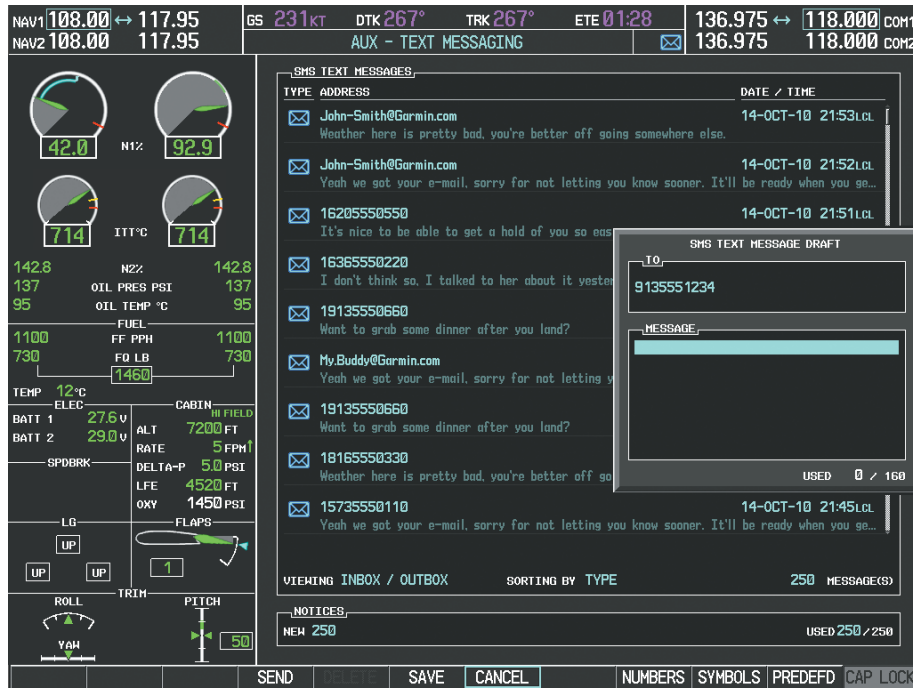

Figure 8-103 Composing a New Text Message
- 2) The TEXT MESSAGE DRAFT Window is now displayed with the cursor in the 'TO' field. Enter the desired telephone number or email address. Entry can be accomplished through the alphanumeric keys on the MFD Controller, or combination of the **FMS** Knob on the controller and softkeys on the MFD. The **FMS** Knob is used to enter letters and numbers, or numbers can be entered from the MFD by selecting the **NUMBERS** Softkey. Select the **CAP LOCK** Softkey to create upper and lower case alpha characters. Special characters can be accessed by selecting the **SYMBOLS** Softkey. See Figure 8-103.
- 3) Press the **ENT** Key. The cursor is now displayed in the 'MESSAGE' field (Figure 8-103).